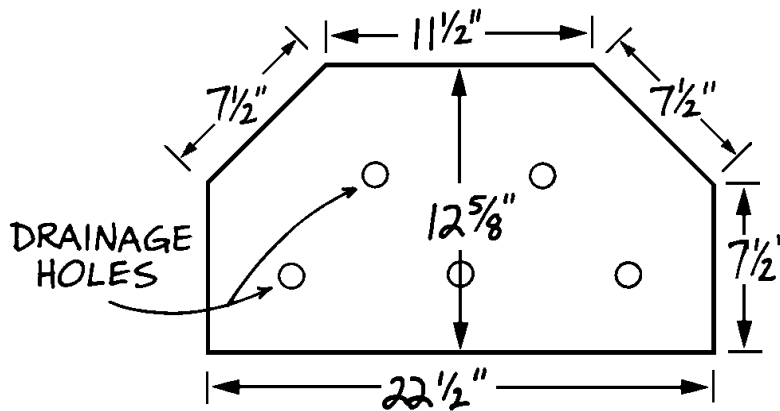

Figure 2
| E | Base | 2 | 3/4" plywood | See Fig. 2 |
| F | Bottom | 2 | 3/4" plywood | See Fig. 2 |
1. Using *Figure 2* as a guide cut four identical pieces from 3/4" thick exterior-grade plywood. Two pieces will be bases (E) and two will be bottoms (F) for the planters.
2. To allow for drainage, drill five 1"-diameter holes in each base (E) and bottom (F), as shown in *Figure 2*. The exact placement of these holes is not important.